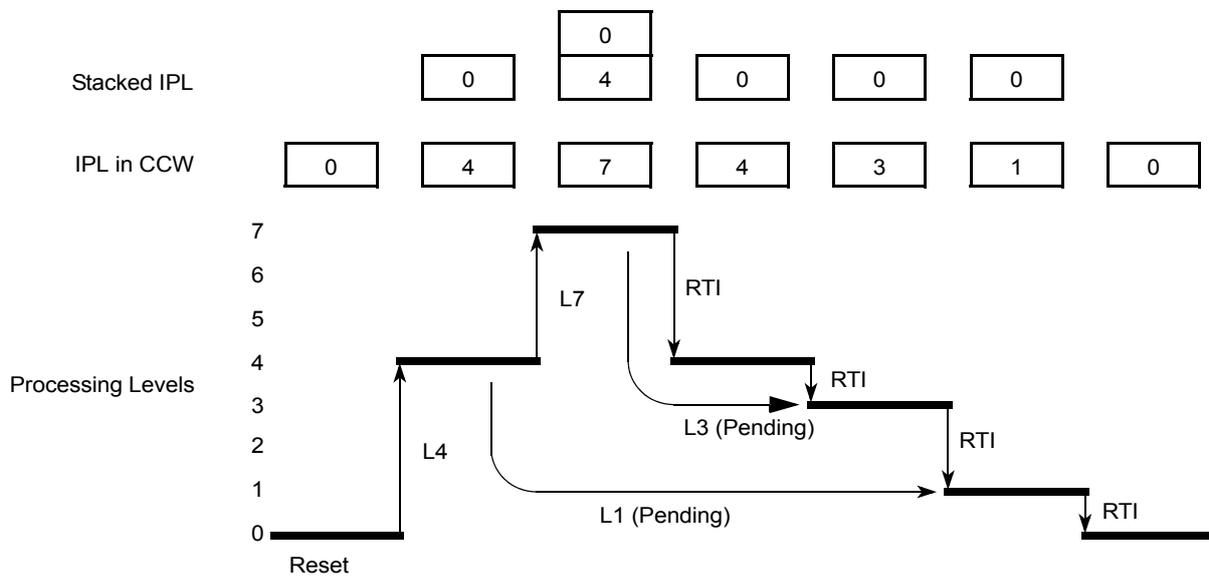

Figure 4-14. Interrupt Processing Example
- I-bit maskable interrupt requests can be interrupted by an interrupt request with a higher priority, so that there can be up to seven nested I-bit maskable interrupt requests at a time (refer to Figure 4-14 for an example using up to three nested interrupt requests).